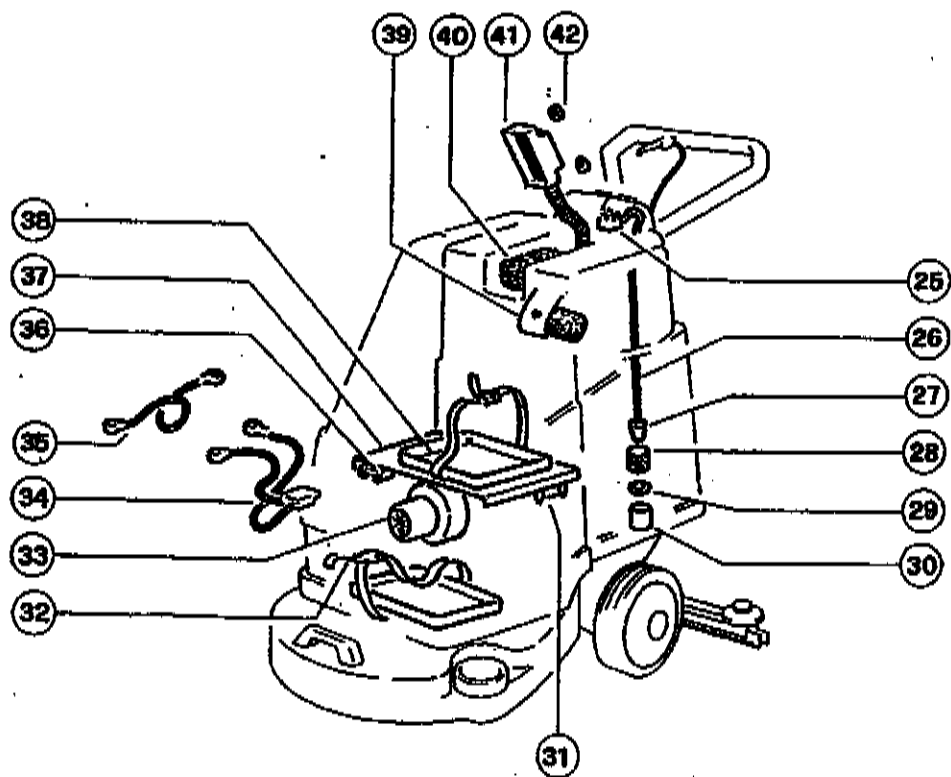

Fig. 3
If you have to replace the cable, plug or terminals, secure the electrical connections and cable strap (fig. 3, N°. 25) so that the cable cannot be ripped. Carefully refit the electrical boxes to ensure operator safety.
- remove the battery wiring and jumper with terminals (only for the battery-operated model, fig. 3 - N°. 34 e N°. 35);
- on the upper battery support (fig. 3, N°. 37), at the side of the upper battery plate (fig. 3, n° 38), there is a label showing the layout of the batteries and cables: the battery on the top plate must have the + and - poles facing the tanks, whereas the ones on the lower plate must face away from the tanks;
- open the fastening of the lower battery holder belt (fig. 3, N°. 32) and adjust so that its ends face the side opposite the suction motor (fig. 3, N°. 33) (i.e. the left side of the machine) to prevent them obstructing the battery plate;